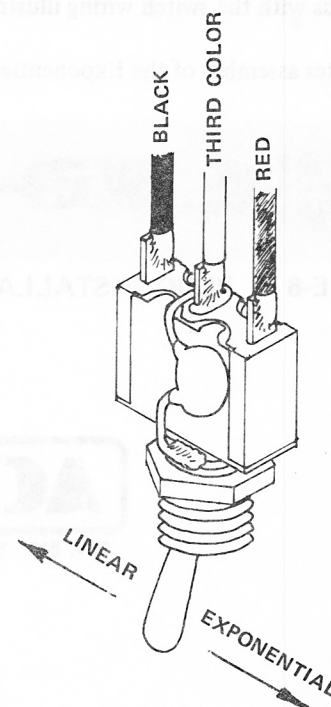

FIGURE E-5 SWITCH WIRING
- () If you need to be able to switch Exponential in and out, you can either obtain three additional SPDT toggle switches (Ace Cat. No. 30K1) or use the existing Dual Rate switches. In either case, a .001 mf capacitor needs to be installed between ground and the middle terminal of each switch. You can solder to the threaded portion of the switch close to the body of the switch--solder won't "take" properly to the metal portion of the switch body. See the drawing furnished. (Fig. E-5) If you are using three additional switches, locate and drill holes for them where desired.